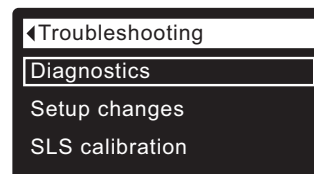

FIG. 99
2. To display the Diagnostics screen from any of the rolling status screens (when an error code is not displayed), press the SELECT (O) button to display the **Main menu**.
4. Press the SELECT (O) button to display the Advanced settings menu.
6. Press the SELECT (O) button to display the Troubleshooting menu (See Figure 99).
1. From any of the rolling status screens, press the SELECT (O) button to display the **Main menu**.
3. Press the SELECT (O) button to display the Advanced settings menu.
5. Press the SELECT (O) button to display the Troubleshooting menu (See Figure 99).
- **Cancel** will return to the Troubleshooting menu (Figure 99).
9. Press the SELECT (O) button.